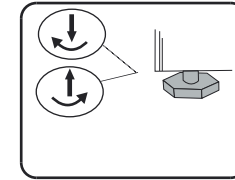

Fig. 1
Step 4: Rotate the two front levelers, provided below your refrigerator, clockwise to raise the front and anticlockwise to lower it (refer Fig. 1). The front should be slightly above the rear so that the door shuts gently when left open.